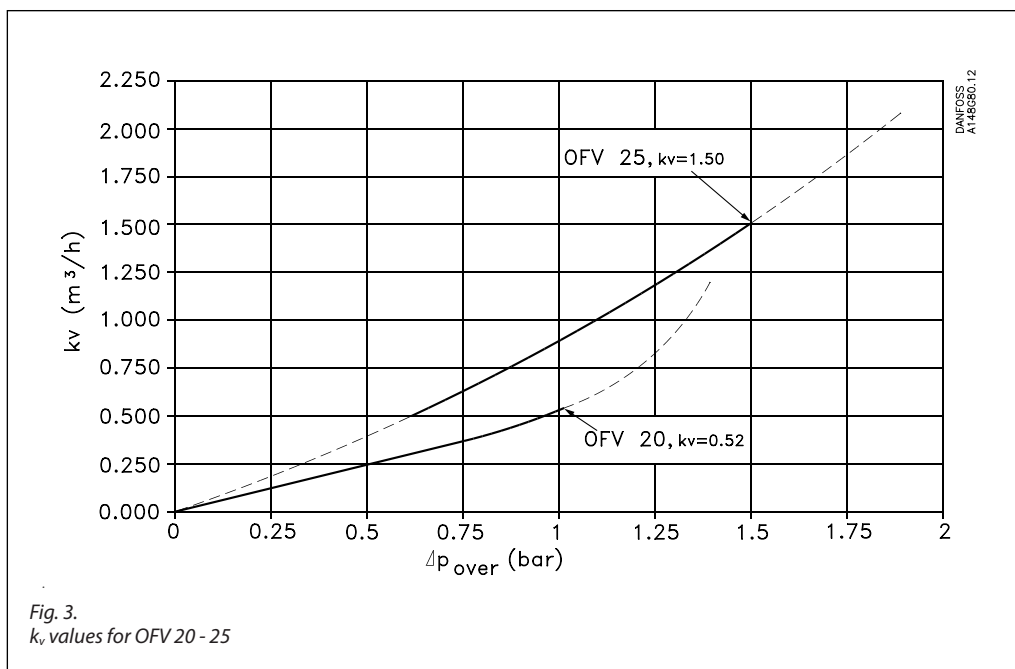

Fig. 3.
- k_v: flow rate (m³/h) (the k_v value is dependent on ΔP_{over}, see fig. 3).